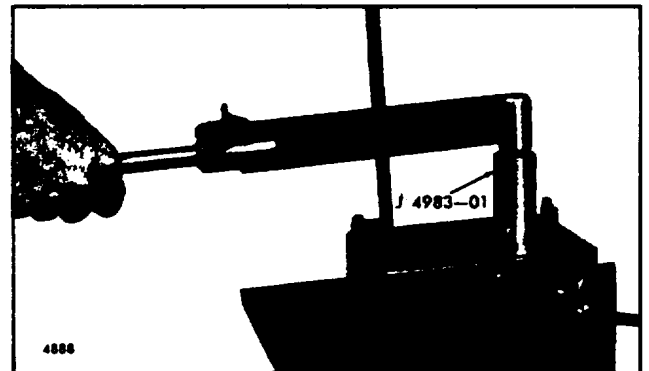

Fig. 40. - Tightening Injector Nut With Torque Wrench
8. Use socket J 4983-01 and a torque wrench to tighten the injector nut to 75-85 lb-ft torque (Fig. 40.).